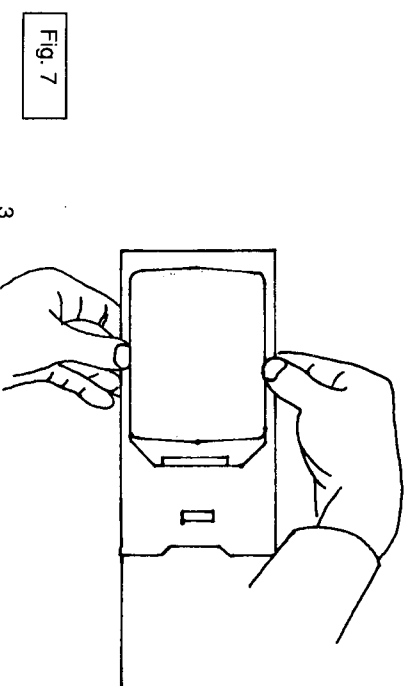

Fig. 7
2. Pick up the film holder at the longitudinal edges with both hands as shown in Fig. 7 so that the sides of the film pop out. Grasp the film by the edges and simply lift it out.